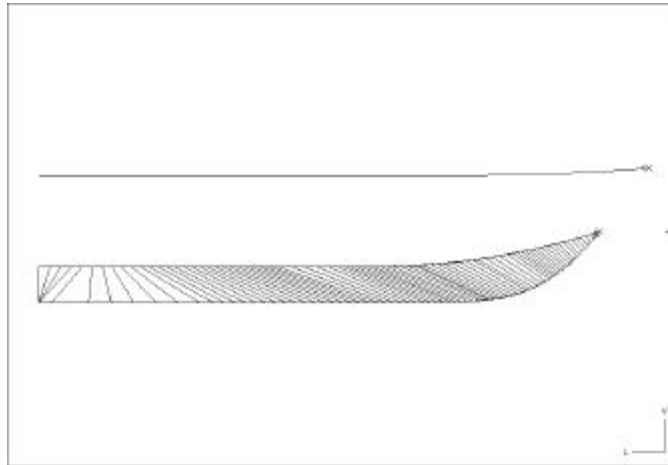

Figure 1-11: Bottom surface, profile view
4. Click the **Mesh** button to see the ruling lines. (See Figure 1-11.)